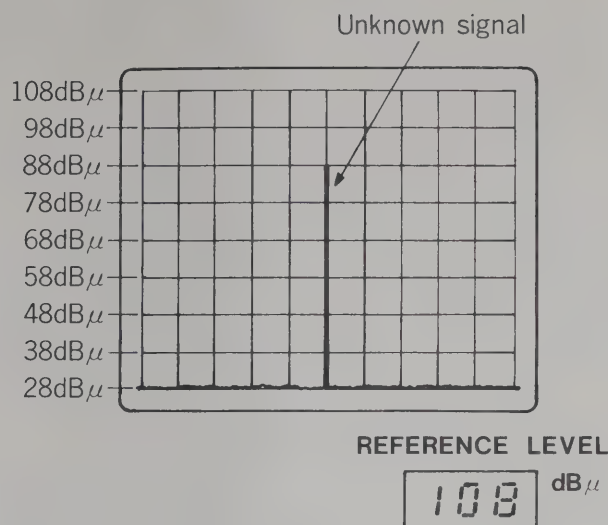

Figure 3.10 Absolute Level Measurement Display
**3.5.1.2** After tuning in an unknown signal, use the RF ATTENUATOR and IF GAIN switches to adjust the peak level of the input signal to a convenient point on the vertical axis of the CRT graticule. The REFERENCE LEVEL readout will now indicate the absolute level (in dBuV) for the top line of the CRT graticule markings. By arithmetically adding the REFERENCE LEVEL indication and the difference (in dB) of the input signal's peak indication on the CRT from the reference point, the result will be the level of the input signal in dBuV. For example: Assume that the vertical-axis scale is set to 10 dB/DIV. and the signal amplitude level has been set by the RF ATTENUATOR and IF GAIN switches to 2 divisions or 20 dB below the reference point. If the value on the REFERENCE LEVEL readout is 108 dBuV, the level of the input signal will be 108 dBuV + (-20 dB) = 88 dBuV (see Figure 3.10).